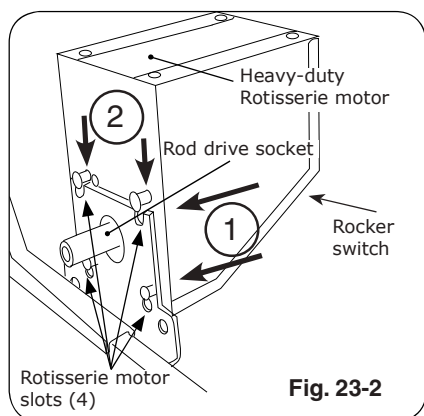

Fig. 23-2
10. Plug-in the rotisserie motor and press the rocker switch to start (Fig. 23-2).